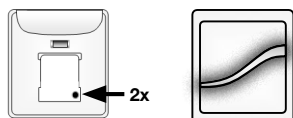

Fig. 1
- A. Starting with the primary control, press and release the program button on the back side of the current remote twice in rapid succession (2 taps). The LED light will flash alternating amber and green to identify inclusion mode. (Fig. 1)